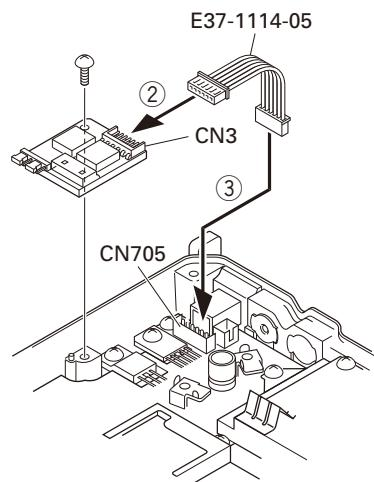

Fig. 2-2
5. Place the relay unit at the position shown in Figure 2-2 and secure it to the chassis with a screw.
6. Remove the cap on the rear of the chassis by pushing it from the inside with your finger. (④)
7. Pass the 6-pin connector of the cable (E37-1113-15) through the chassis hole (⑤) and insert the bush into the chassis hole.
8. Rotate the bush of the cable 90 degrees counterclockwise as viewed from the rear of the chassis. (⑥)
9. Insert the 6-pin connector of the cable into the connector (CN2) of the KAP-2 relay unit. (⑦)